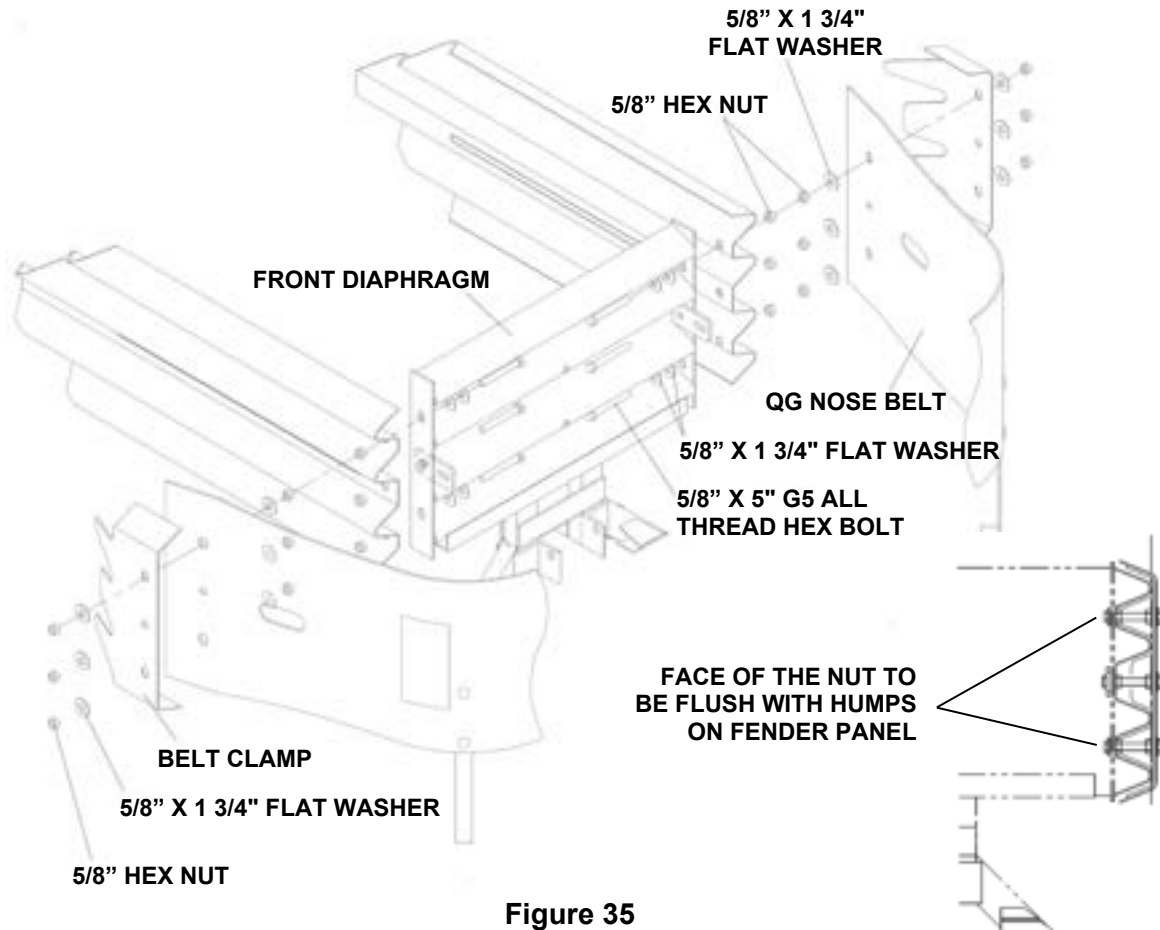

Figure 35
- Using 5/8" x 5" hex bolt, two (2) 5/8" x 1 3/4" flat washers and 5/8" hex nut, attach Fender Panel to front Diaphragm top and bottom as shown in Figure 35 (two places per side).
- Thread second 5/8" nuts onto the attached bolts. Be sure the faces of the nuts are flush with humps on Fender Panels (Figure 35). Slide third 5/8" x 1 3/4" flat washers onto bolts (three places per side).